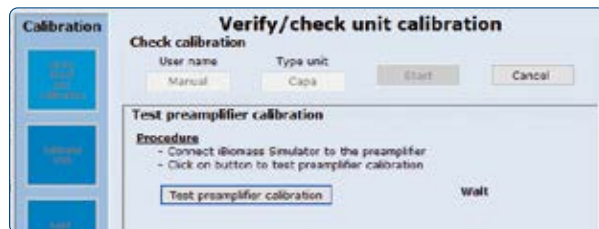

Figure 51: Testing the pre-amplifier calibration.
5. Connect the Capacitance Simulator and press Test Pre-amplifier Calibration to run the Verification procedure (Figure 51). The successful Verification is indicated. If this procedure fails it is recommended to perform a calibration.